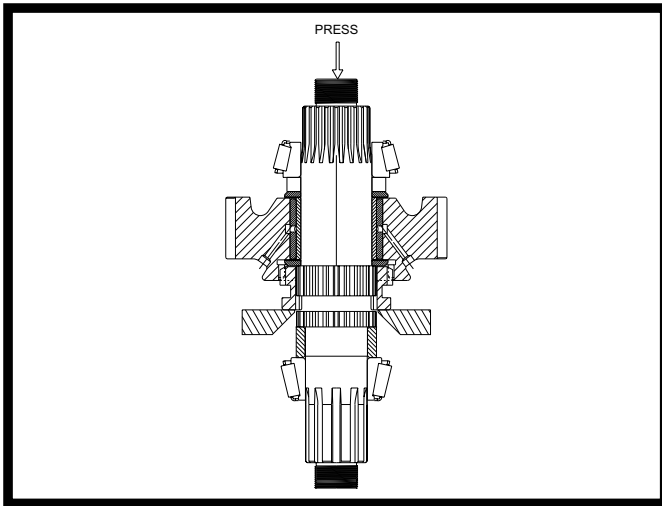

Fig 26
8. Engage the sliding clutch gear into the larger gear and position the assembly in a press such that the exposed face of the clutch gear is supporting and the press arbor bears against the opposite end of the shaft. See Figure 26. Remove the (3) bearing cone assemblies, the gear, the clutch gear, and the various spacers.